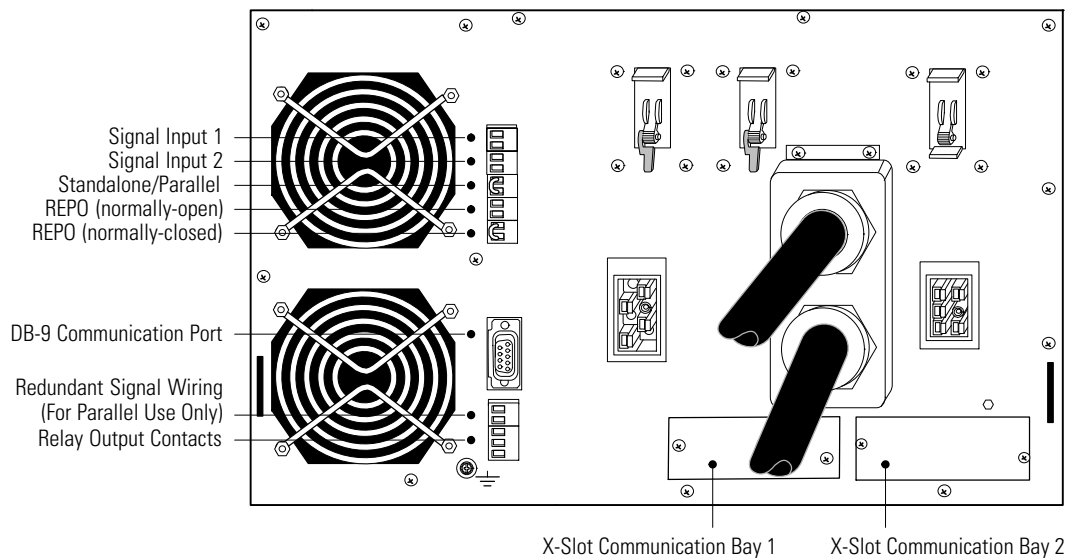
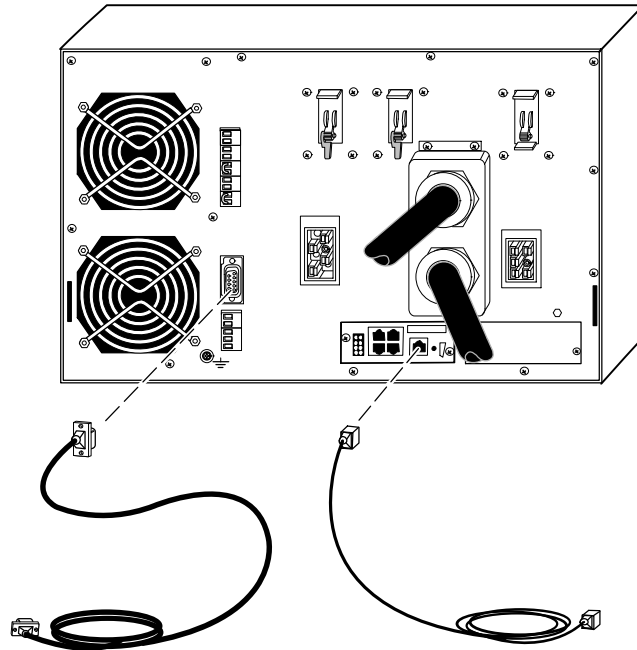
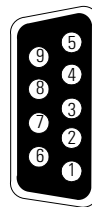

Figure 46. Communication Options and Control Terminals (Standalone UPS shown)
Figure 47. Installing Communication Cables
Figure 48. Communication Port
Figure 46 shows the location of the communication options and control terminals on the UPS.
1. Install the appropriate X-Slot card and/or necessary cable(s) (see Figure 46 and Figure 47).
Figure 48 identifies the cable pins and Table 7 describes the pin functions. See Figure 46 on page 77 for the communication port location.
See Figure 46 on page 77 for the location of the two X-Slot communication bays.
The UPS incorporates a programmable relay output with potential free contacts for remote alarm indications (see Figure 46 on page 77). You can obtain an additional four relay outputs with the X-Slot compatible Relay Interface Card.
The UPS incorporates two programmable signal inputs (see Figure 46 on page 77). Use of non-polar (relay) control input is recommended. The pins must be shorted with maximum resistance of 10 ohm in order to activate the specific input.
There are two REPO positions that may be used, normally-open (NO) or normally-closed (NC). See Figure 46 on page 77 for REPO locations.